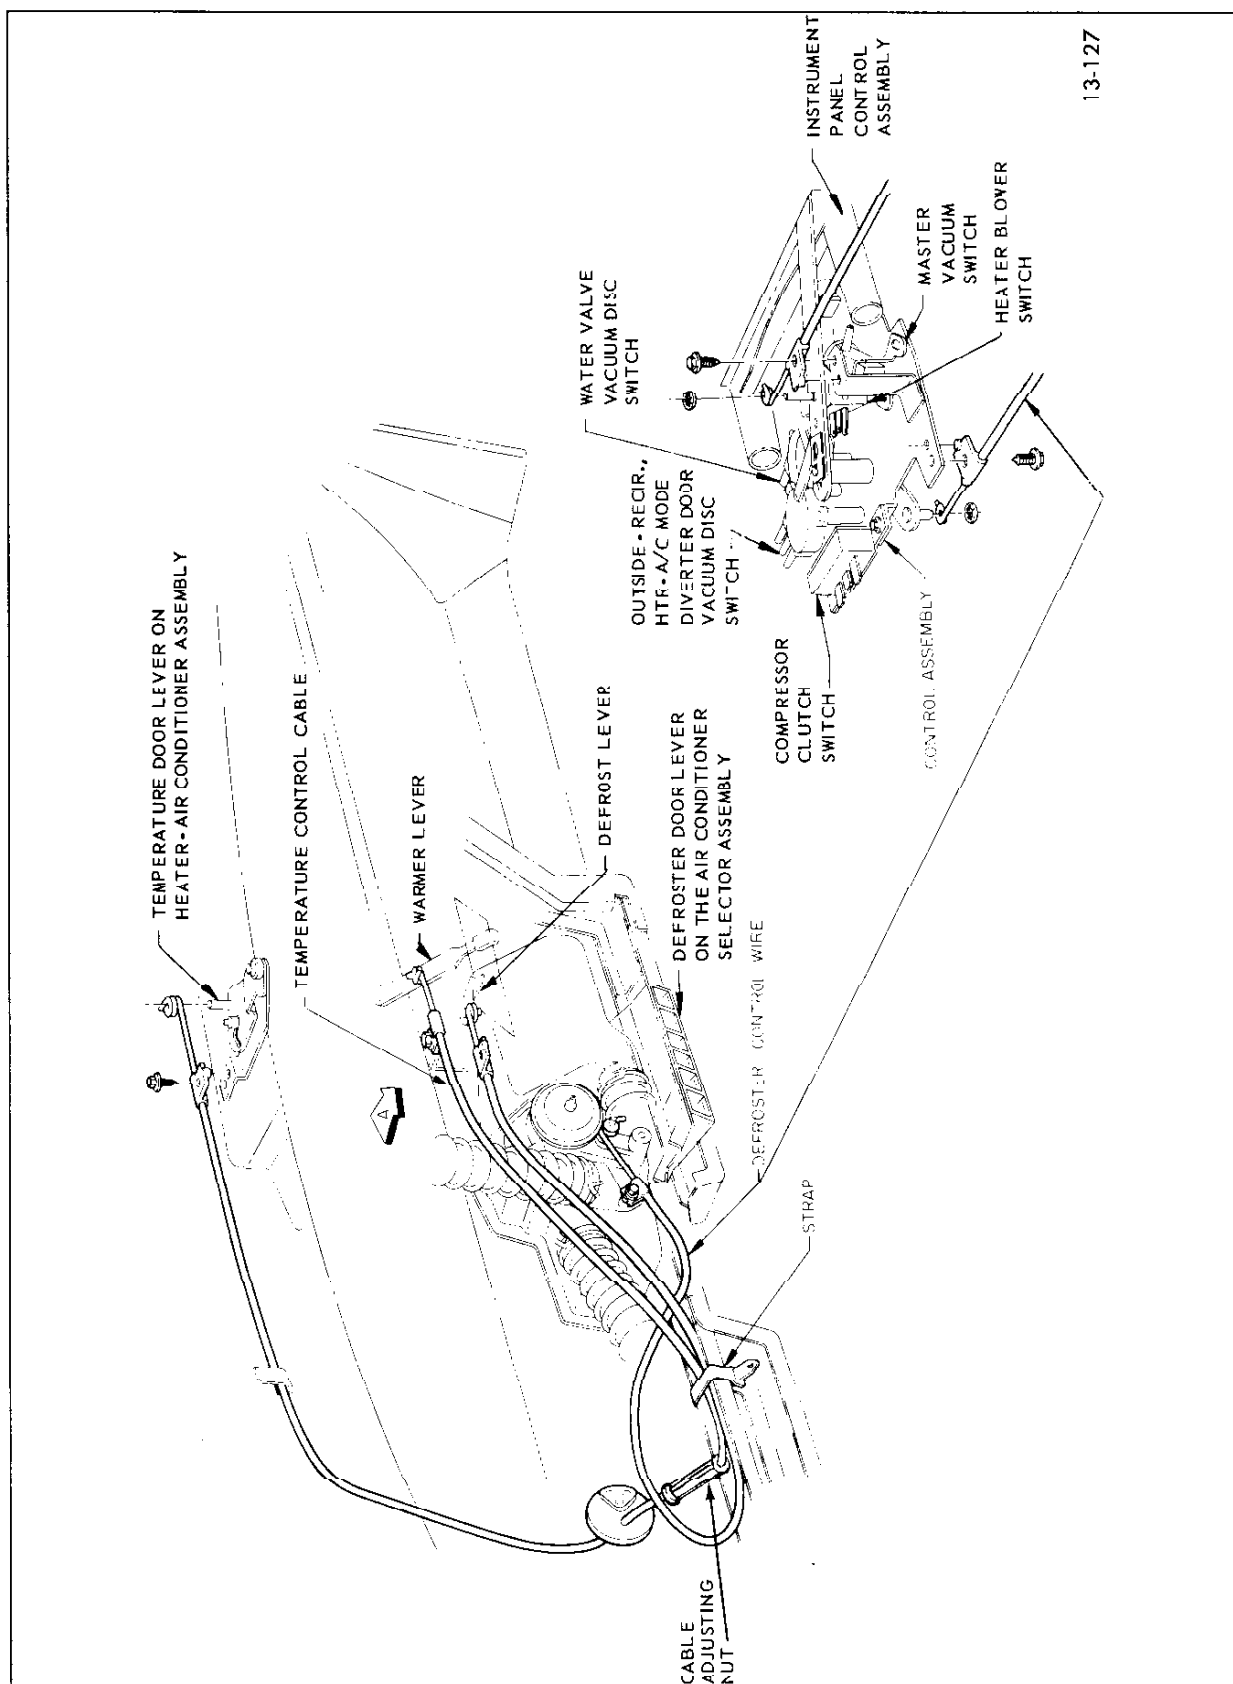

Figure 13-127—Control Cable Installation
1. The temperature control wire adjusting nut may be reached from under the instrument panel in the area between the steering column and the parking brake bracket. See Figure 13-127.